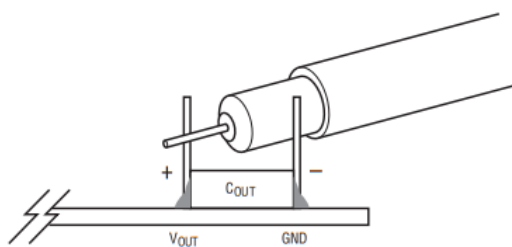

Figure 2. Scope Probe Placement for Measuring Input or Output Voltage Ripple
7. Once the proper output voltage is established, adjust the load within the operating ranges and observe the output voltage regulation, ripple voltage, efficiency, and other parameters. NOTE: When measuring the input or output voltage ripple, take care to avoid a long ground lead on the oscilloscope probe. Measure the output voltage ripple by touching the probe tip directly across the output capacitor. See Figure 2 for the proper scope technique.